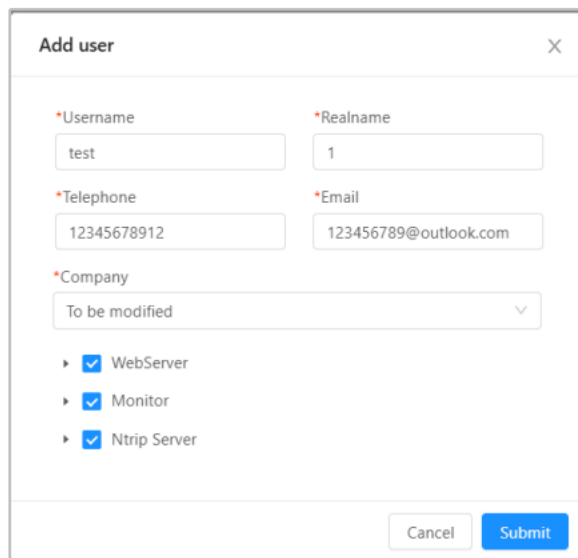

Figure 3-75
- (1) Navigate to "Common" → "Usermanage" page, click the **+ Add** button, enter the user information ("Username", "Realname", "Telephone", "Email", "Company"), and then click **Submit**, as shown in Figure 3-75.